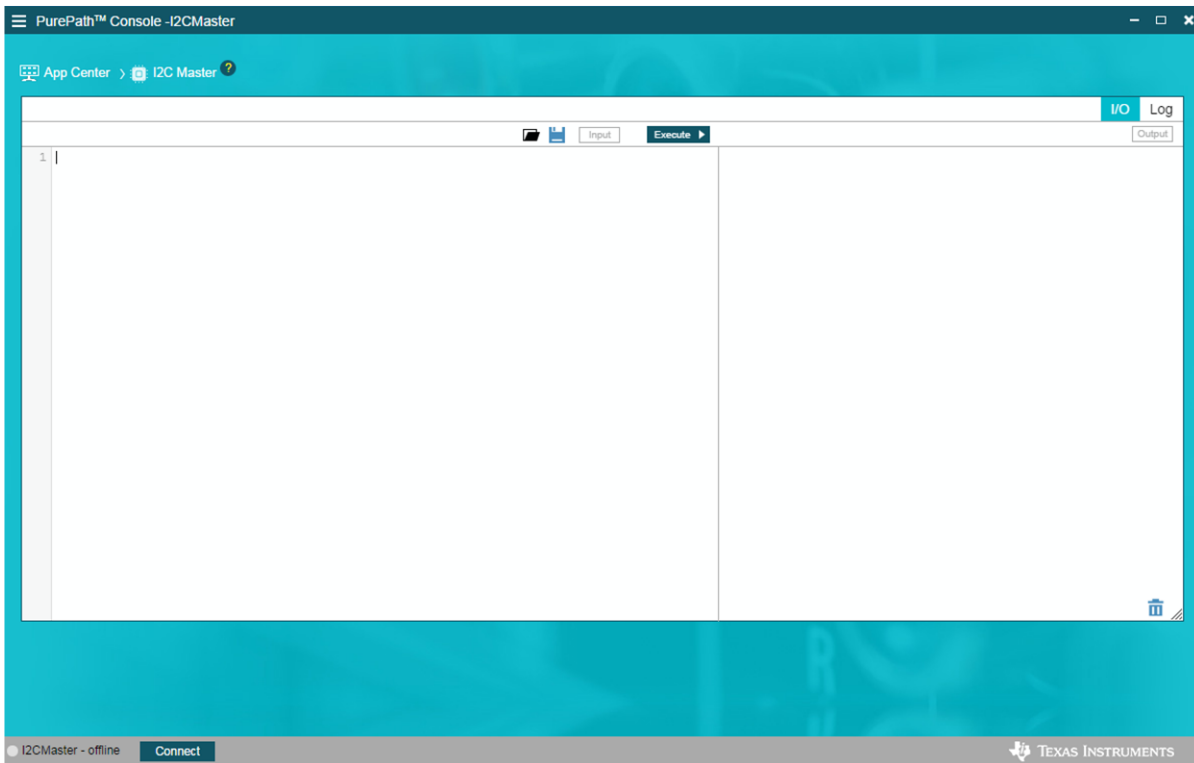

図 6. I2C Master Interface
- Launch the I2C Master App. In the bottom lefthand corner there should be a button that says Connect, shown in 図 6. Press the connect button and now the button should be red and say Disconnect.
- Shown in 図 6, click the Excute button. All lines should say successfully written.